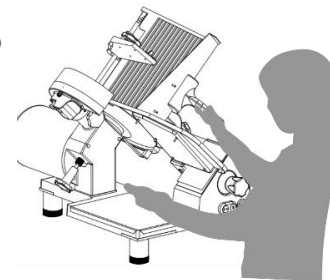

FIG 4. WORK POSITION
7.- Locate in the correct working position (See Fig. 4), and now you can start to slice the product. For best results, keep knife (2) sharp.
8.- When operations are finished, always pause the machine by pressing the "INICIO" (Start/Pause) key and turn the thickness gauge knob (6) clockwise as far as it will go (BE SURE THAT THE PLATE (12) COVERS THE EDGE OF THE KNIFE TO PREVENT AN ACCIDENT).
9.- Return the handgrip (15) to its stowed position under the carriage following the steps 3 of this section.